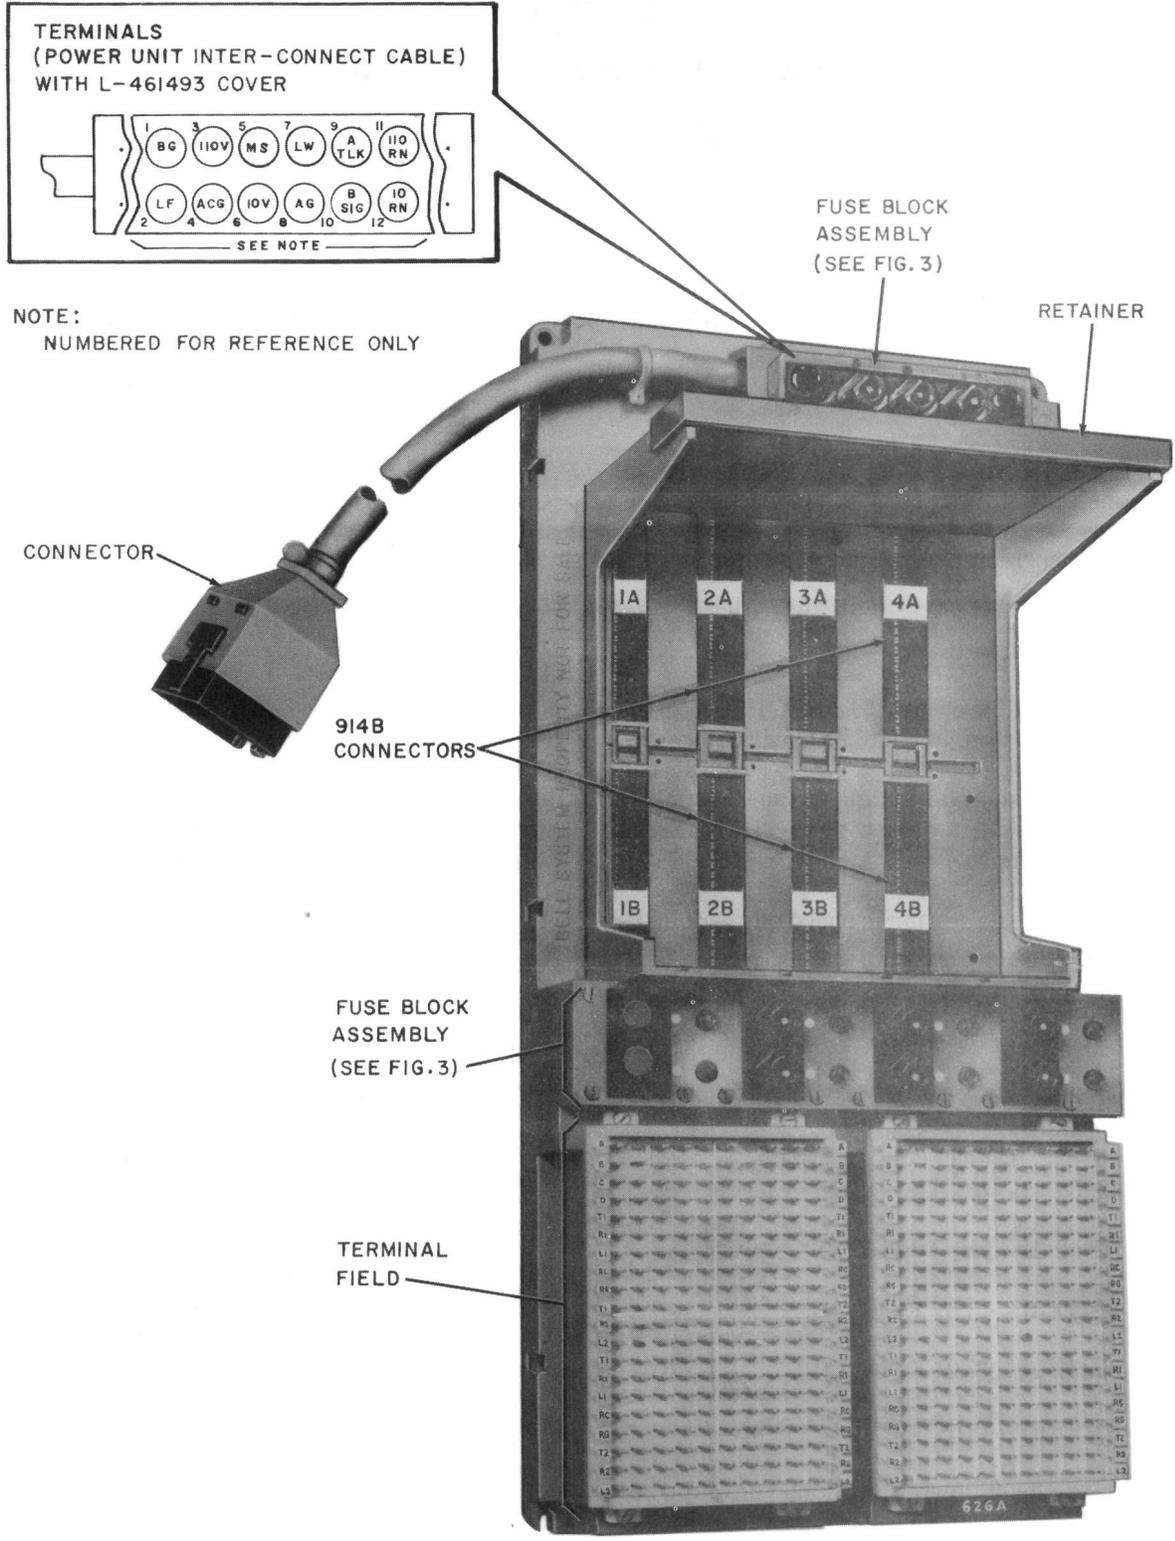

Fig. 1—626A Panel
**2.01** The 626A panel (Fig. 1) is designed for use with the 1A2 Key Telephone System (KTS). It provides a means for interconnecting a number of button-per-path type dial intercoms. The 626A panel can accommodate intercom configurations of 1, 2, or 3 paths with capacities of 19 or 37 stations. Intercom paths are selected by operation of the associated button on KTSs. Rotary and/or TOUCH-TONE® dialing can be provided. Lead terminations are provided in a quick-connect field to facilitate connecting optional features and for connecting to station blocks of a 1A2 KTS cross-connect field.